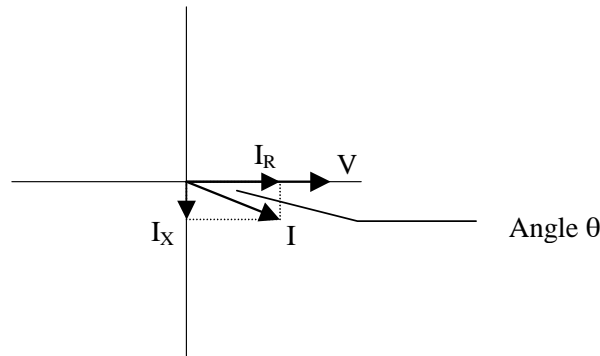

Figure 1.9: Voltage and Complex
- Real power (and energy) is the component of power that is the combination of the voltage and the value of corresponding current that is directly in phase with the voltage. However, in actual practice the total current is almost never in phase with the voltage. Since the current is not in phase with the voltage, it is necessary to consider both the inphase component and the component that is at quadrature (angularly rotated 90° or perpendicular) to the voltage. Figure 1.9 shows a single-phase voltage and current and breaks the current into its in-phase and quadrature components.
The quadrature current may be lagging the voltage (as shown in Figure 1.9) or it may lead the voltage. When the quadrature current lags the voltage the load is requiring both real power (watts) and reactive power (VARs). When the quadrature current leads the voltage the load is requiring real power (watts) but is delivering reactive power (VARs) back into the system; that is VARs are flowing in the opposite direction of the real power flow.
Displacement PF = $\cos \theta$, where θ is the angle between the voltage and the current (see Fig. 1.9).